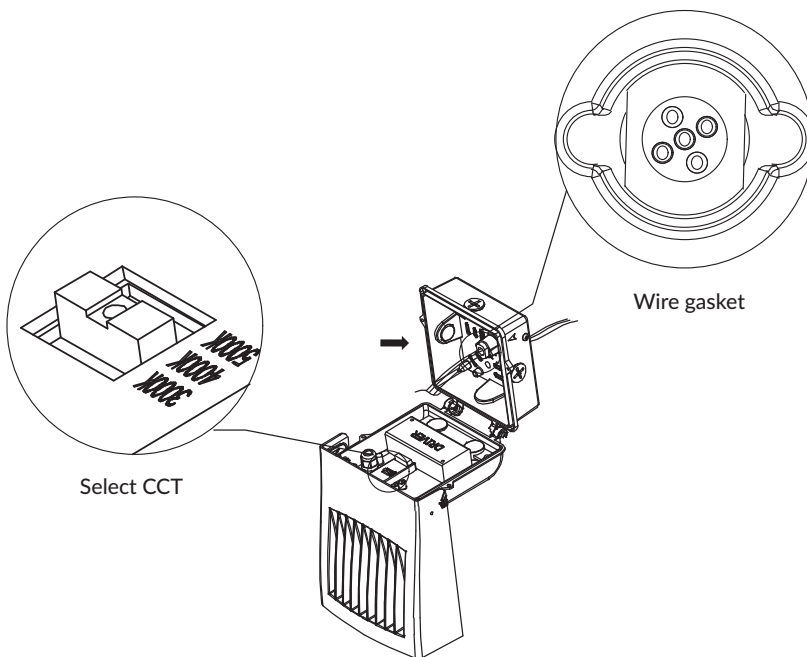

Figure 4
- Open the driver box by unscrewing the top part of the driver box. (Figure 4).
- Pull out the power supply wires (L black, N White), grounding wire (G Green), and dimming wires (purple and gray) (if needed), by breaking through the 5 holes wire gasket. (Figure 4)
- Select the desired CCT by using the sliding switch according to project needs. (Figure 4)